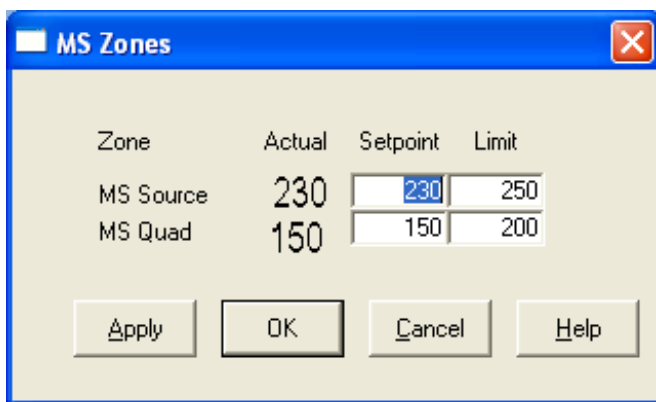

Figure 15 Setting temperatures
- 2 Select **Temperatures** from the **MoreParams** menu (Figure 15).